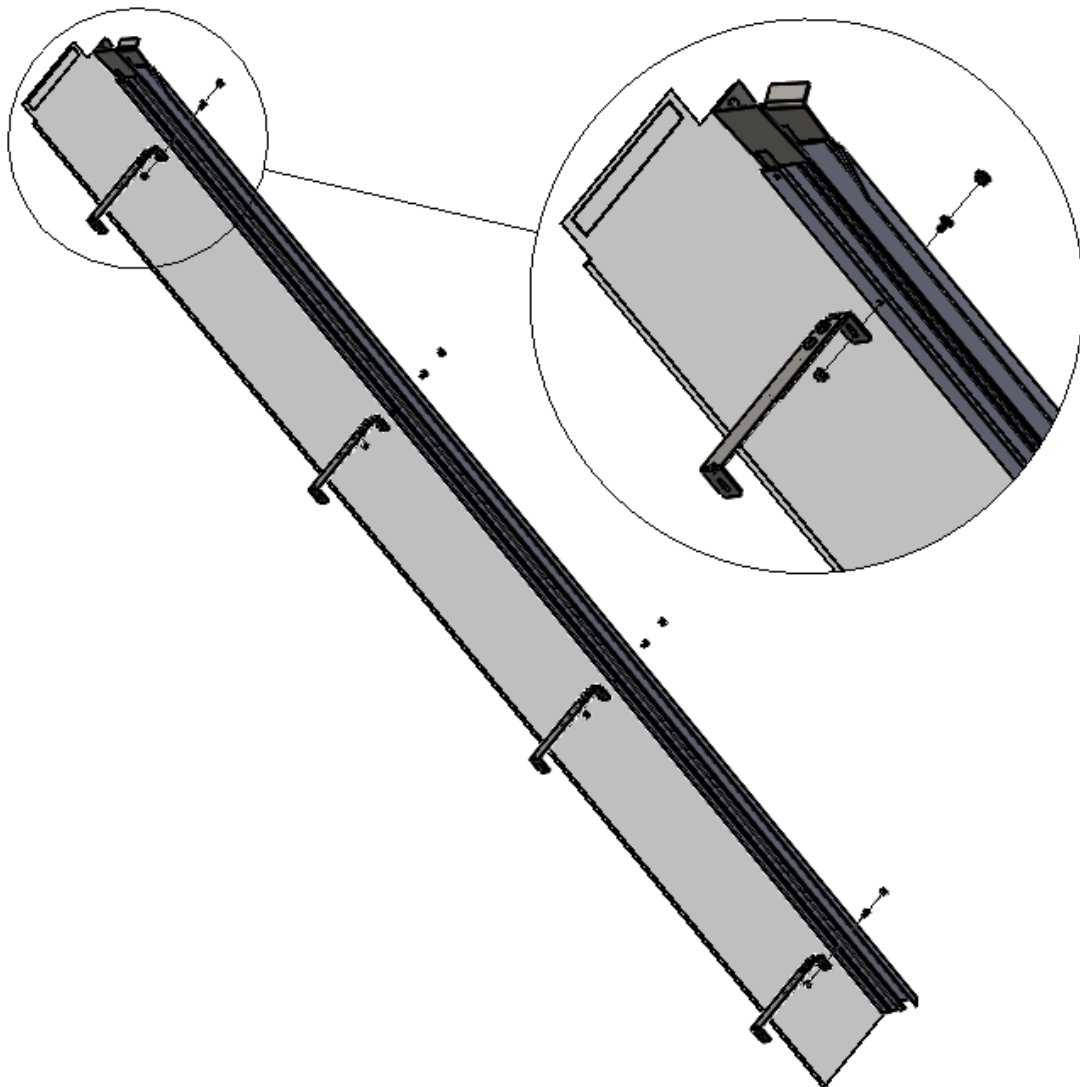

Figure 8 TRACK PROJECTION BRACKET ARRANGEMENT
2. Locate the Track Projection Mount Brackets, four (4) per Track, and four the ¼-20 Screws and Flanged Nuts.
4. Slip the Projection Bracket with the hole facing the Track, and then thread the nut, onto the screw. The slotted end of the Projection Bracket will fasten to the mounting surface in a later step. These brackets should be mounted so that they are horizontally oriented, i.e. so that they are parallel to the floor (NOT vertically oriented /up and down). (Figure 8 TRACK PROJECTION BRACKET ARRANGEMENT)